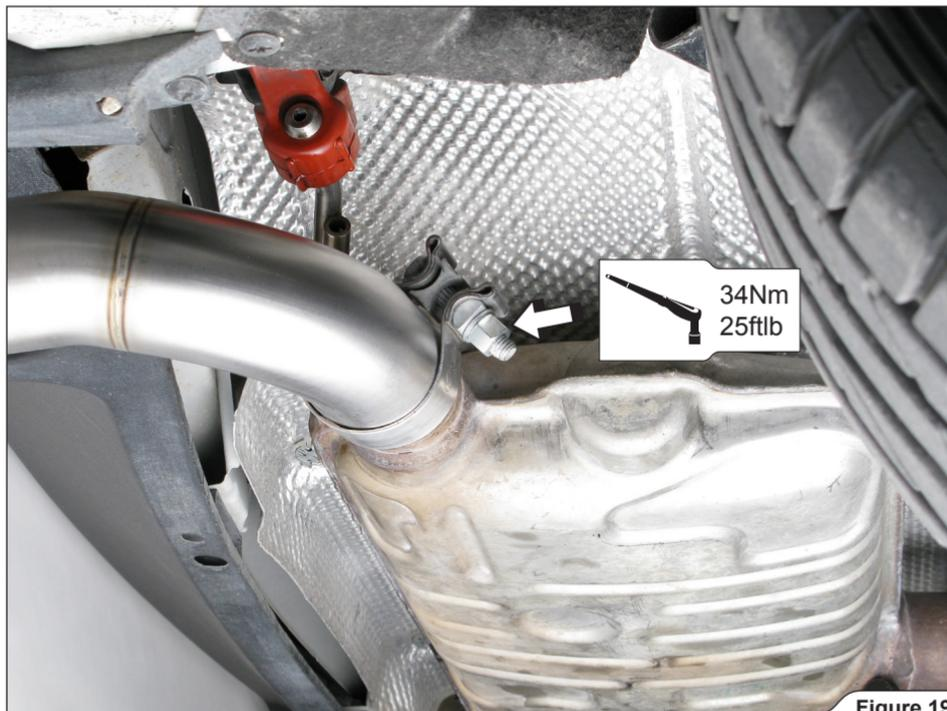

Figure 19
10. **For Tail-Pipes only:** slide the connection pipes all the way onto the stock mufflers' outlets, center them and tighten the clamps to a specified torque (**Figure 19**).